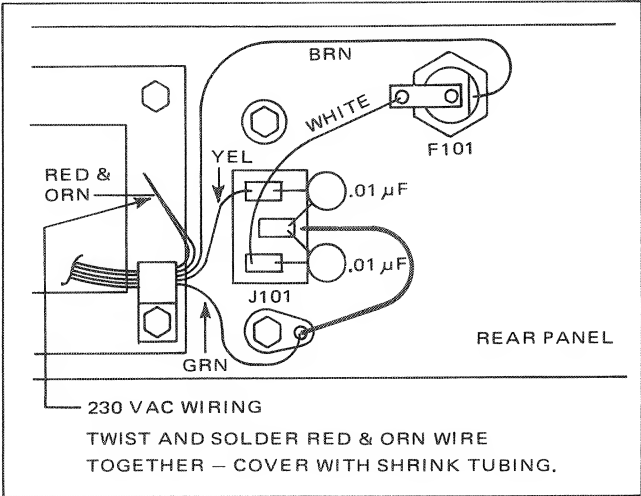

Figure 2.2 - 230V Operation
2.9 Power requirements for domestic units are $115V \pm 10\%$, 50 to 400 Hz. Power consumption is 60 watts maximum. All 8000B series counters are adaptable for 230V operation. Figure 2.2 shows input wiring for $230V \pm 10\%$ line voltage.